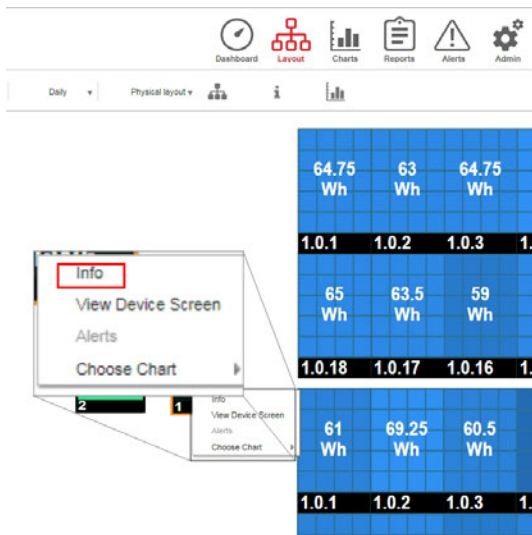

Figure 27: Inverter menu
2. Right-click the inverter and select **Info** from the menu (*Figure 27*). The inverter details window is displayed (*Figure 28*).